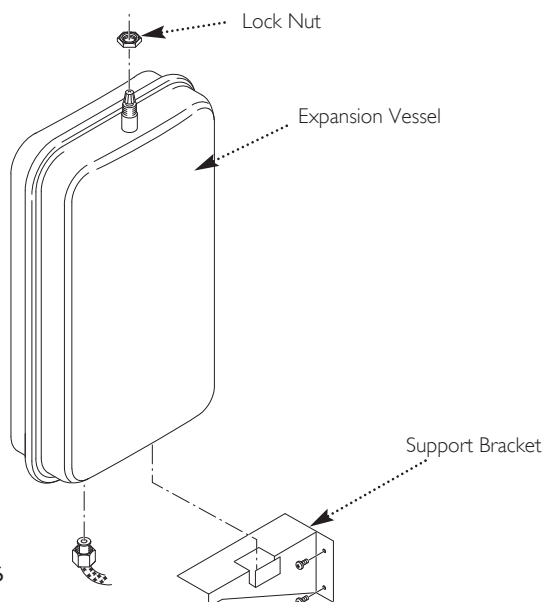

Fig. 66
13.20 Expansion Vessel (Fig. 66)